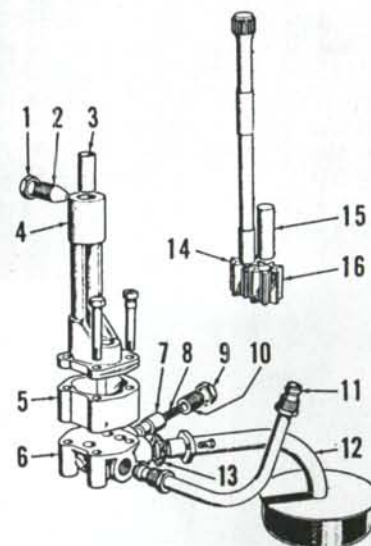

Fig. 97—Exploded view of oil pump used on three-cylinder engine showing component parts and their relative positions.
120. OVERHAUL. Disassembly of pump is obvious after examination of unit and reference to Fig. 97. When removing pressure regulator adjusting screw (10), count number of turns required to remove screw. The screw can then be reinstalled to original pressure setting.
excessive wear. Renew as needed. Diameter of bushing surface of pump drive shaft must be 12.433-12.446 mm (0.4895-0.490 inch). Inside diameter of mating bushing (3—Fig. 97) is 12.458-12.509 mm (0.4905-0.4925 inch). Gear width must be 30.112-30.137 mm (1.1855-1.1865 inches) and gear housing depth must be 30.162-30.200 mm (1.1875-1.1890 inches).
Assemble drive shaft and driven gear (14—Fig. 97) in bracket (4). Install idler shaft (15) and idler gear (16). Use a dial indicator to measure backlash between pump gears. Backlash must be 0.51-0.66 mm (0.020-0.026 inch). Install two new gears if backlash is not correct. Install pump body (5) and place "Plastigage" on face of pump gears. See Fig. 98. Install pump cover (6—Fig. 97) and tighten retaining bolts to 10 N·m (7 ft.-lbs.) torque. Remove cover (6) and check clearance. Clearance must be 0.025-0.089 mm (0.001-0.0035 inch). Install new gears if clearance is not correct. Reinstall cover (6) and tighten bolts to 10 N·m (7 ft.-lbs.) torque.
Install relief valve plunger (7—Fig. 97), spring (8) and adjusting screw (10). Turn adjusting screw into cover (6) the same number of turns as noted at removal. If necessary, an approximate setting can be made by leaving four screw threads of adjusting screw (10) showing above locknut (9). This will give approximately 276 kPa (40 psi). One full turn of adjusting screw will result in a 41 kPa (6 psi) change in pressure. Tighten locknut (9) securely.